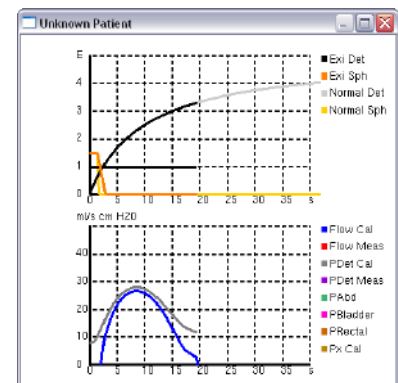

Figure 168: Normal
- Select the **Normal** button to open the Graph in its normal format (Figure 168).